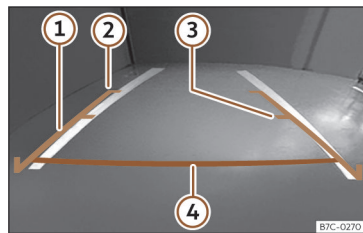

Fig. 189 On the Infotainment system screen.: guide lines.
- Vehicle load modifies the representation of the guide lines»» Fig. 189 . The width
»» **Fig. 189**